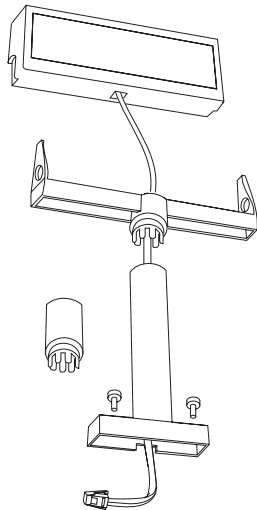

Figure 61. Attaching the distributed customer display cable
- a. Route the distributed customer display cable through the mounting post (and post extension, if used) and plug the cable into the display, as shown in Figure 61.